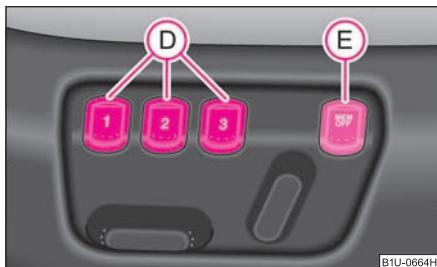

Fig. 56 Driver seat: Memory buttons and the button MEM OFF
Memory for the seat offers the possibility to store the individual driver seat and external mirror position. An individual position can be allocated to each of the three memory buttons **D** ⇒ page 58, fig. 56, that is three in total. By pressing the appropriate memory button **D** the seat and external mirror will automatically move into the position allocated to this button ⇒ page 59.
- **By pressing briefly:** with the door open, operate the desired memory button (D) ⇒ page 58, fig. 56 with one-touch. The seat and the exterior mirrors now move automatically into the stored position.
- **By pressing for a long period of time:** with the driver door open or closed, press and hold the desired memory button (D) until the seat and the exterior mirrors have moved into the stored position.
After pressing the off switch (E) ⇒ page 58, fig. 56 of the memory system, the memory system is deactivated. You can only adjust the seat and the exterior mirrors manually. You can switch on the memory system again by once again pressing the off switch (E) of the memory system. The setting is not carried out to the end if a retrieved setting operation is interrupted.